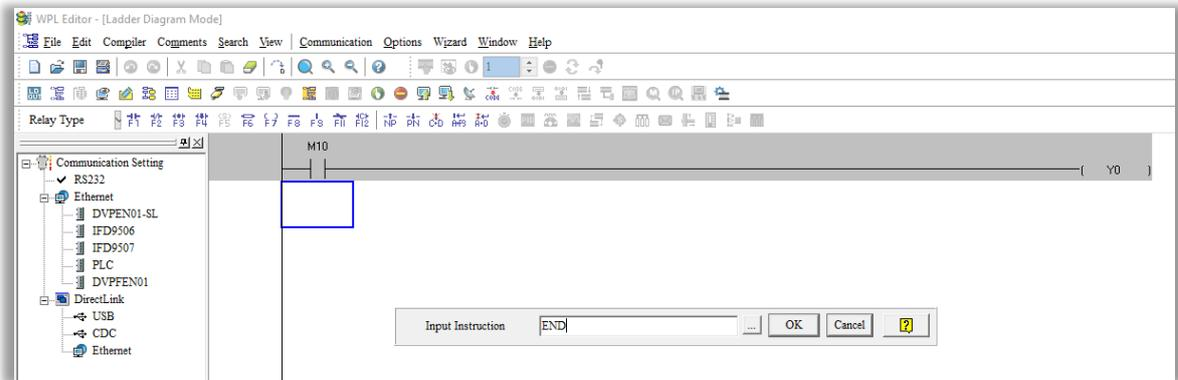
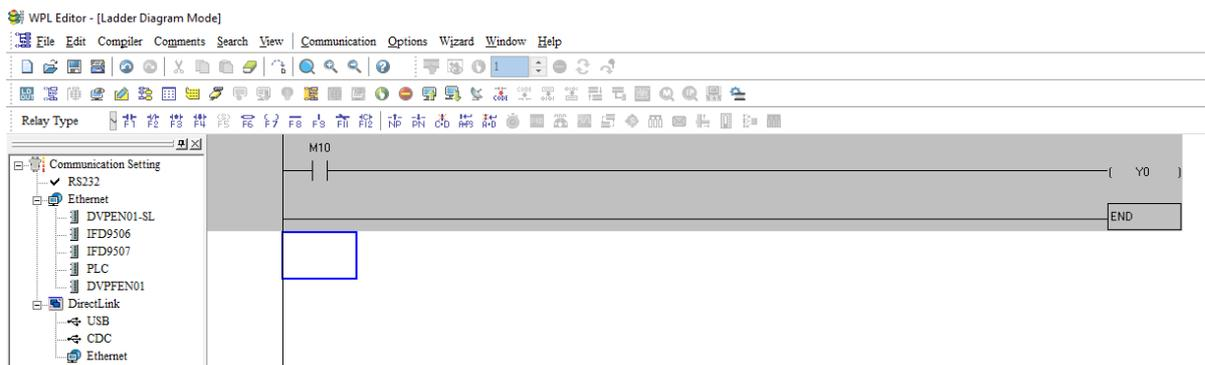

Figure 16-23
Figure 16-24
4. Press Enter, and **Input Instruction** box appears. In the **Input Instruction** box, select **END**, or use the keyboard to type “END”, and then click **OK**, as shown in Figure 16-23 and Figure 16-24.